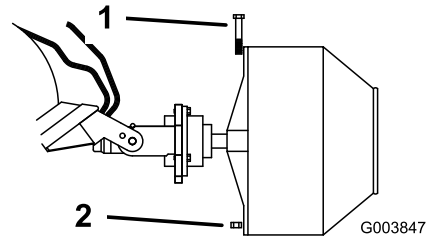

Figure 3
6. Secure the bowl to the drive head with the bolt and nut supplied with the auger drive head (Figure 3).